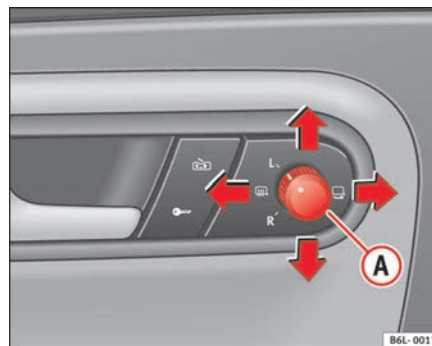

Fig. 68 Exterior mirror control
1. Turn knob ⇒ **fig. 68** to position **L (left exterior mirror)**.
- Turn the control to the demisting position ⇒ **fig. 68**.
- Turn the control ⇒ page 100, fig. 68 to position  to fold in the exterior mirrors. You should always fold in the exterior mirrors if you are driving through an automatic car wash. This will help prevent damage.